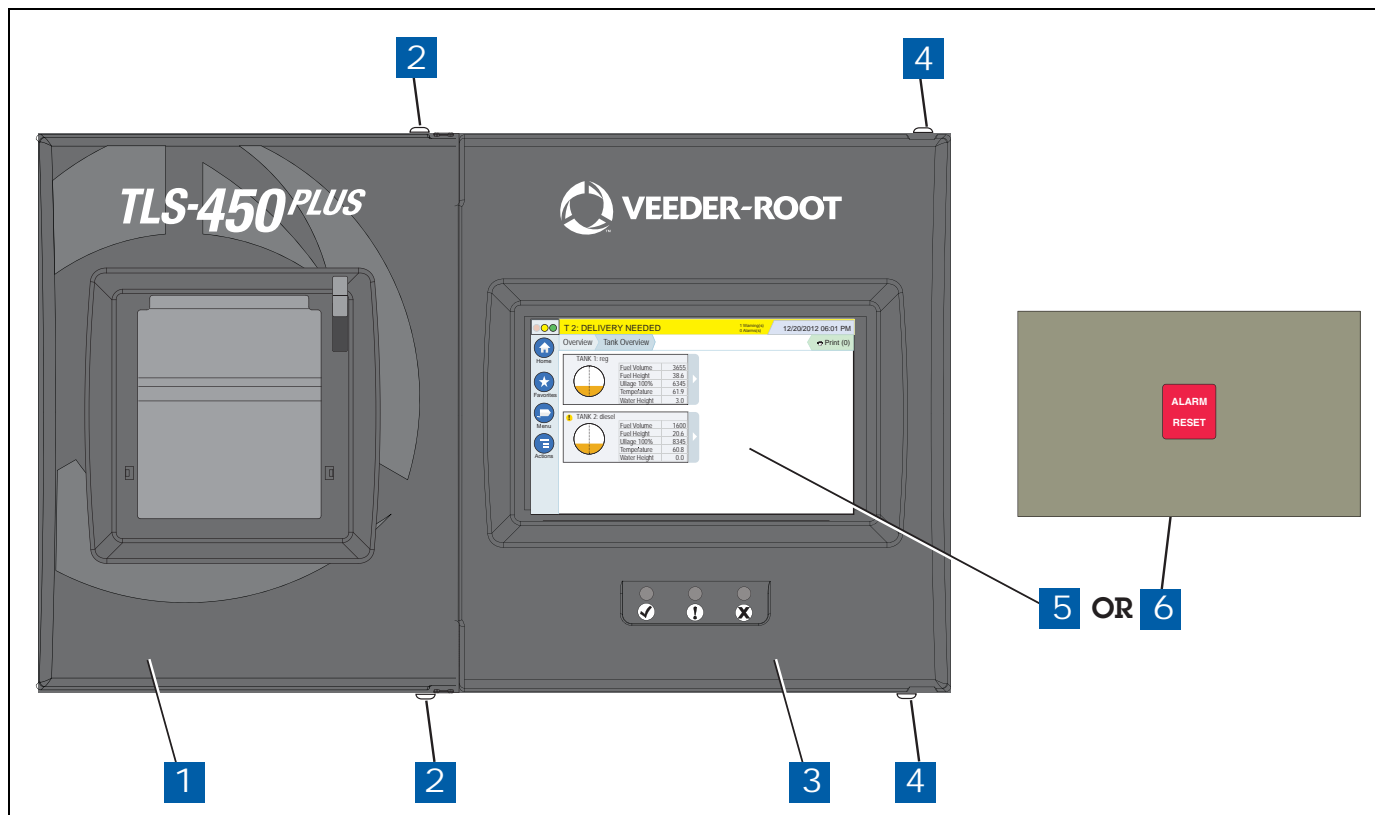

Figure 3. Opening The TLS-450PLUS Console Doors
2. Remove the both left and right door screws (with a T-15 Torx driver) and swing open both doors to the left (see Figure 3).
LEGEND FOR NUMBERED BOXES IN Figure 3
3. Remove both left and right door screws (with a T-15 Torx driver) and swing open both doors to the left (see Figure 3).